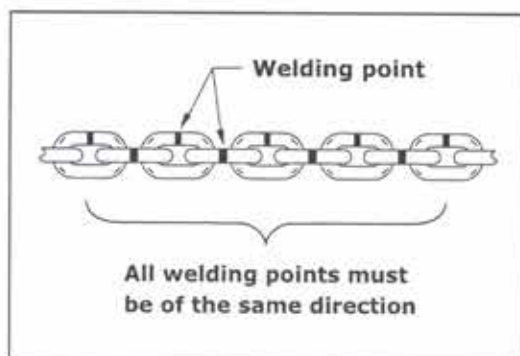

Fig.4.3
- Check to see that the welds on the load chain all face the same direction as indicated in figure 4.3. The hoist will not operate properly if this is not correct.